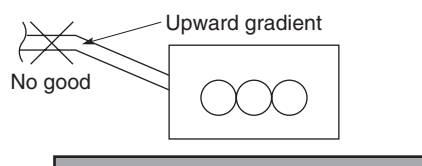

Fig. 1-78
- Do not install the pipe with an upward gradient from the connection port. This will cause the drain water to flow backward and leak when the unit is not operating. (Fig. 1-78)